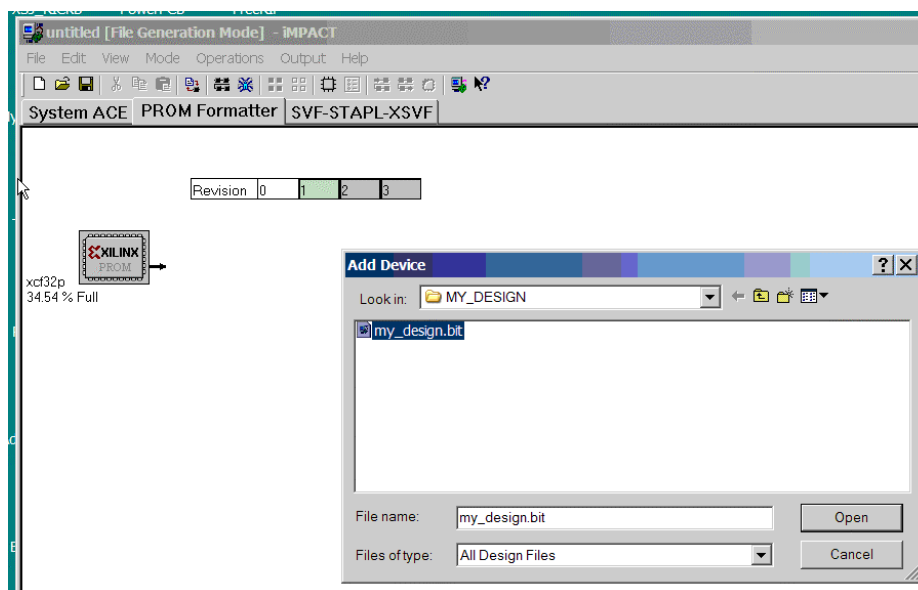

Figure B-8: Adding the Design File to Revision 1
11. Once you answer No when prompted to add another design file to Revision 0, the green revision highlight will move to Revision 1. You will be prompted to add your design file to Revision 1 as shown in Figure B-8.